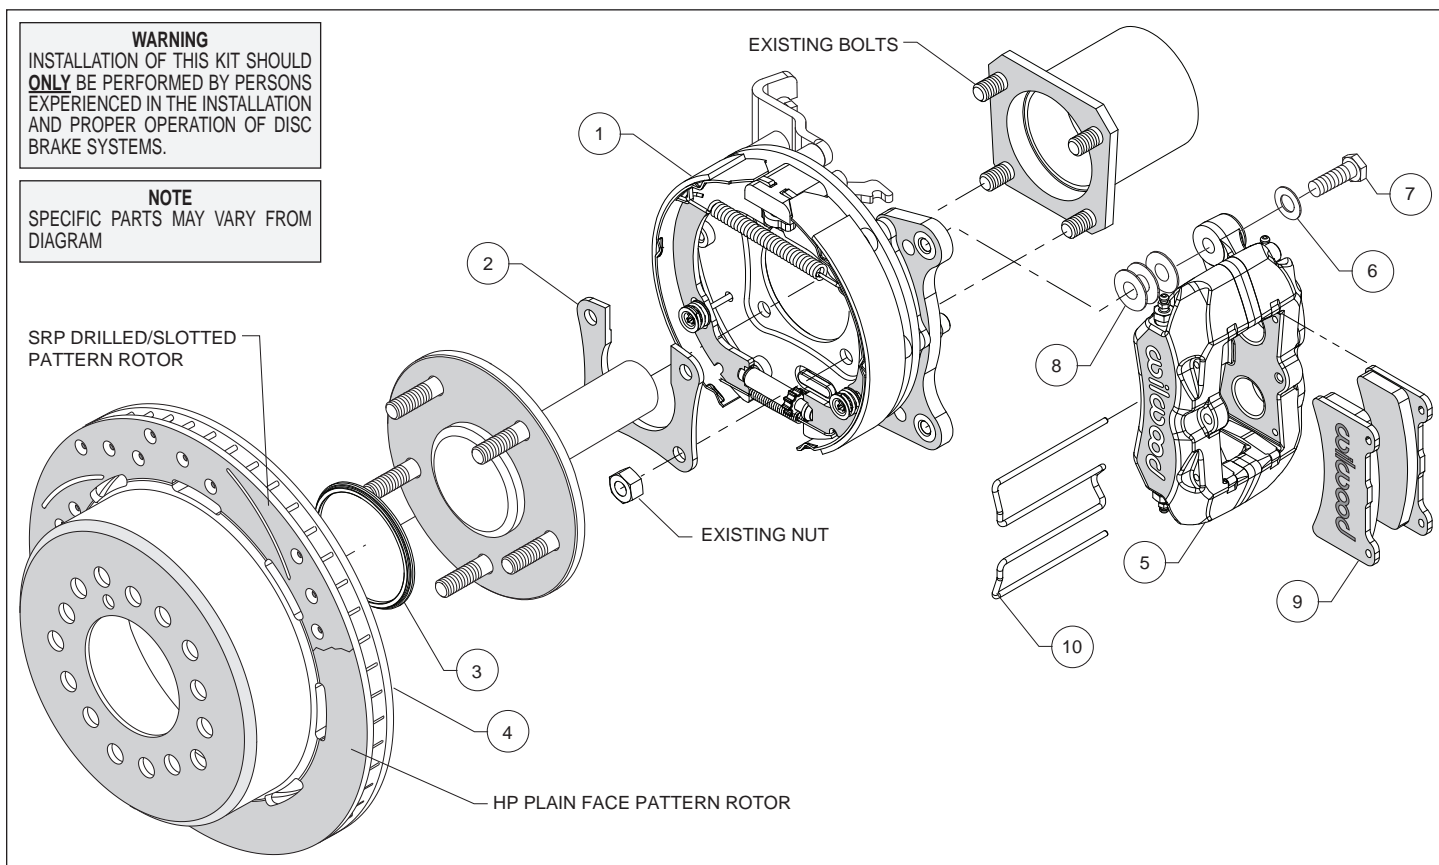
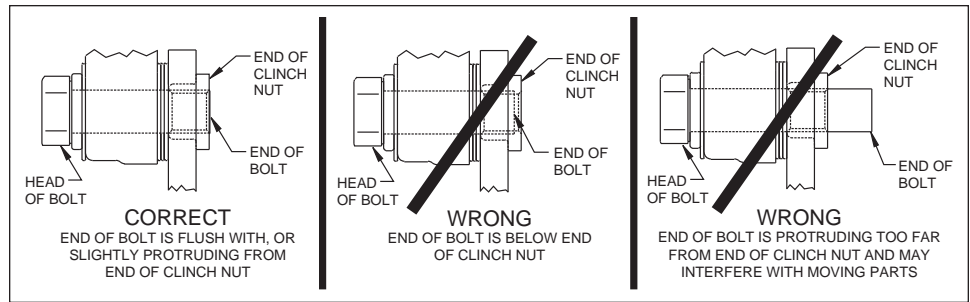

Figure 1. Typical Installation Configuration
Figure 5. Clinch Nut Engagement Diagram
Assembly Instructions (numbers in parenthesis refer to the parts list, and Figure 1 on the preceding pages): **CAUTION:** All mounting bolts must fully engage clinch nuts. Be sure to check that all bolts are either flush or protruding through flanged side of clinch nut after shimming, Figure 5.
- Orient the bracket assembly (1) as shown in Figure 1 and Photo 1 and slide it onto the axle. Insert the axle and bracket into the axle housing. Ensure that the bracket assembly backing plate fits flush against the axle housing flange.
- Install the bearing retainer (2) with the opening pointing upward and the lip facing inward (toward the bearing), as shown in Figures 1 and 4, and Photo 2. Secure retainer and bracket assembly to the axle housing flange using the Original Equipment Manufacturer (OEM) bolts and nuts, Figure 1. Apply red *Loctite*® 271 to the OEM bolt threads and torque to OEM specifications.
- Slide the rotor registration adapter (3) onto the axle register on the axle flange with the smaller O.D. facing toward the rotor/hat (4), Photo 3. Align the correct hole pattern in the rotor/hat with the stud pattern on the axle flange and slide into place, Figure 1 and Photo 4. **NOTE:** The rotor/hat must fit flush against the axle flange or excessive rotor run out may result. Install three lug nuts (finger tight) to keep the rotor/hat assembly in place while continuing with the installation. **NOTE:** Some OEM and after market axles come with stud sizes larger than 0.50" diameter. Verify stud size and have a qualified machine shop drill the bolt circle of the hat/rotor to the correct stud size, if necessary.
- NOTE:** Please reference the caution statement at the beginning of the assembly instructions. Mount the caliper (5) onto the caliper mounting bracket (1) using bolts (7) and washers (6), as shown in Figure 1. Initially place three .035" thick shims (8) on each bolt between the caliper and the bracket, Photo 5. Temporarily tighten the mounting bolts and view the rotor (4) through the top opening of the caliper. The rotor should be centered in the caliper, Photo 6. If not, adjust by adding or subtracting shims between the bracket and the caliper. Always use the same amount of shims on each of the two mounting bolts. **NOTE:** The end of each bolt must be flush with or slightly protruding from the head of the clinch nut, as shown in Figure 5. If necessary place spare shims between washer (6) and caliper mounting ear to achieve the proper clinch nut engagement. Once the caliper alignment and clinch nut engagement are correct, remove the bolts one at a time, apply red *Loctite*® 271 to bolt threads, and torque to 40 ft-lb.